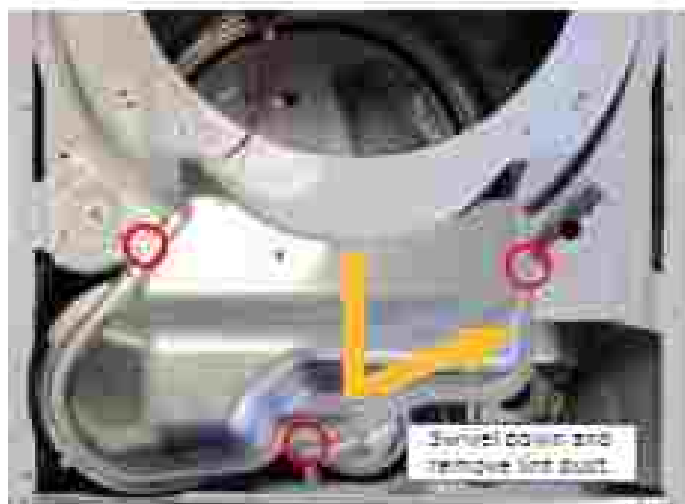

Figure 1 - Remove lint duct screws.
4. Remove the three (3) 1/4" hex-head screws from the lint duct as illustrated in Figure 1. Swivel the lint duct down and remove.